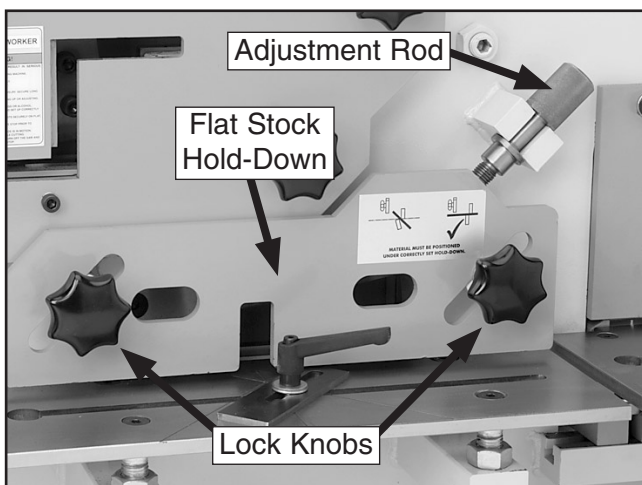

Figure 32. Flat stock hold-down, lock knobs, and adjustment rod.
3. Loosen the lock knobs on the flat stock hold-down (see **Figure 32**), then rotate the shearing hold-down adjustment rod to lift the hold-down up enough to clear the workpiece.